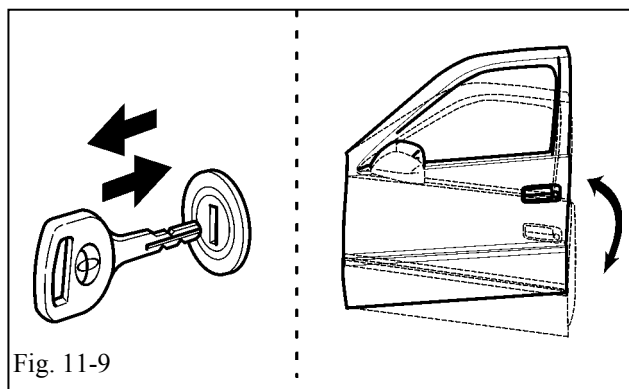

Fig. 11-9
- (p) Insert the Key into the ignition. (Fig. 11-9)
- (q) Remove and insert the Key into the ignition 6 times. (Fig. 11-9)
- (t) Open and close the Driver's Door 7 times ending in Close position. (Fig. 11-9)
- (1) Complete these steps within 35 seconds.